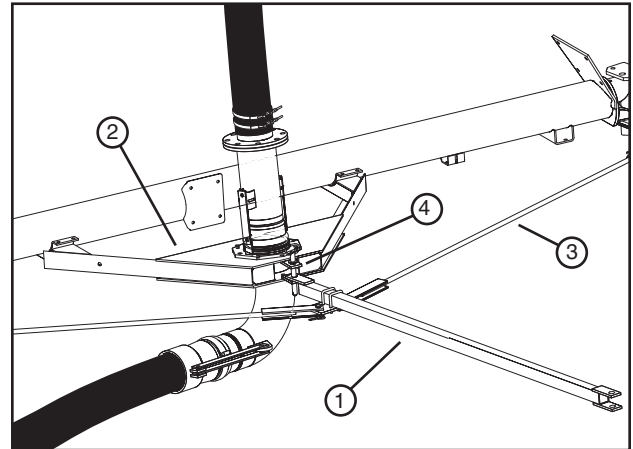

Figure 65-1 1. Tongue 2. Hose Pull frame 3. Tie Rod 4. Torque Pin
1. Attach tongue with tie rods to the hose pull frame with torque pin. See figure 65-1.